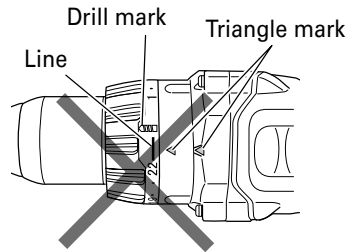

Fig. 11
- Do not use with the clutch dial set at the line between the number "22" and the drill mark "▲". Doing so may cause damage (See Fig. 11).